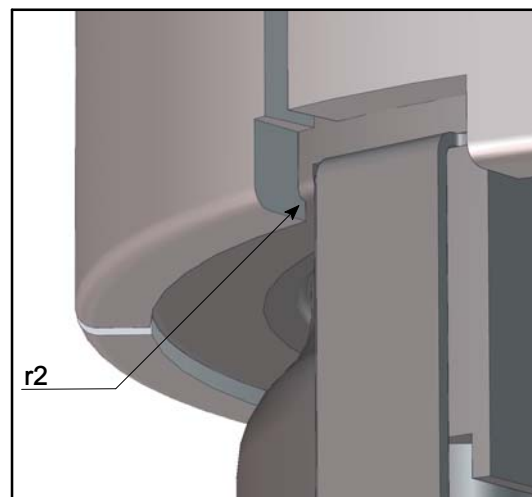

Fig.257
- The cover (R) is correctly positioned when the tooth (r2) of the cover itself is seamed under the gripper holder bush; you can hear a click when the coupling is completed. (see also detail in Fig.257)